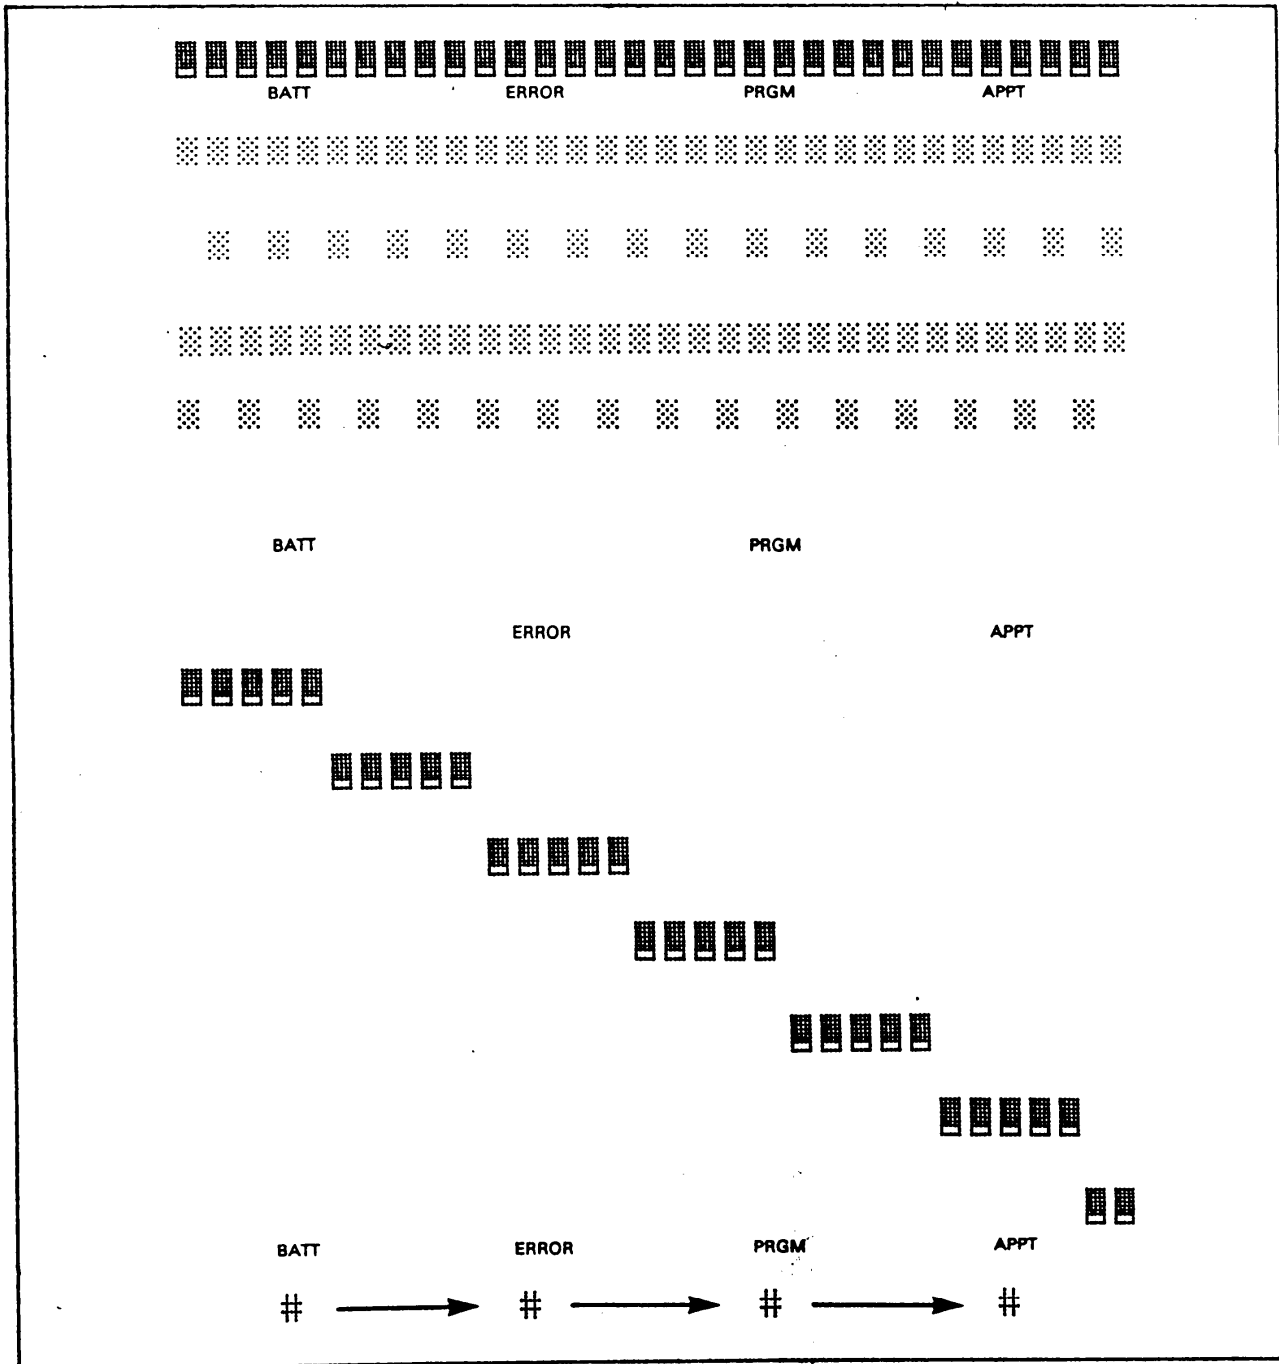

Figure 4-1. LCD Driver Characters
- 4-66. The LCD driver test is a subjective test. This test passes or fails depending on what the operator sees. This test exercises the circuitry which turns on and off the various segments of the LCD. The patterns are listed in order of appearance in figure 4-1.